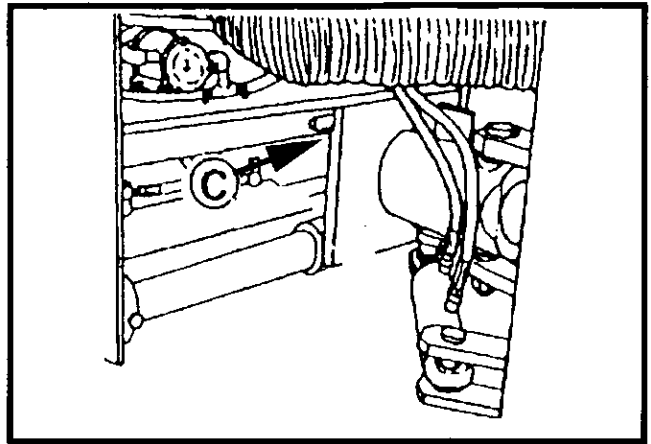
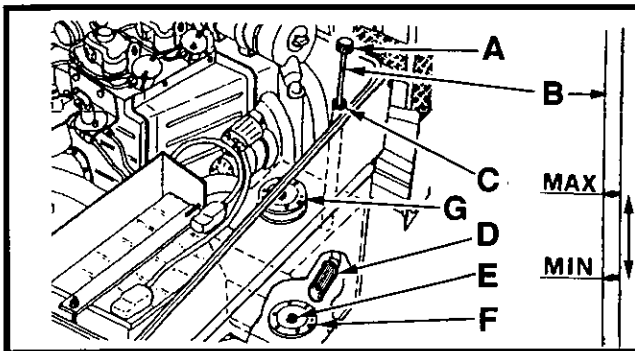

Figure 5-16 Drum Offset Guide Grease Point
Figure 5-18 Hydraulic Oil Tank, Dipstick
1. Clean the grease fitting ('C', Figure 5-16).
1. Check hydraulic oil level by viewing dipstick ('B', Figure 5-16) located on the hydraulic tank. The fill cap ('A', Figure 5-18) includes a dipstick to check the oil level.
3. If necessary, add fresh, clean (filtered through 10 micron filter) anti-wear hydraulic oil through the filler ('C', Figure 5-18). Bring to a full level. It is
In the event that there is indication of contamination of the hydraulic system due to part failure or ingress of dirt into the hydraulic tank, then remove drain plug ('E', Figure 5-18) and the access cover ('F', Figure 5-18) and thoroughly clean out the tank interior. On later models fitted with the suction strainer/filter ('F', Figure 5-18), clean or replace this filter. Follow refill as above.